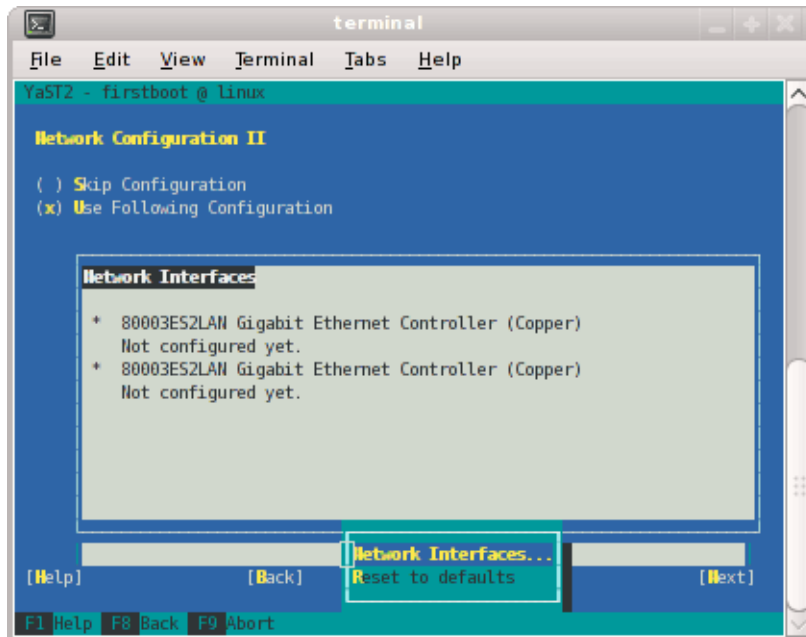

Figure 2-4 Network Configuration II Screen
7. The **Network Configuration II** screen appears, as shown in Figure 2-4 on page 39. Select **Change** and a small window pops up that lets you choose **Network Interfaces...** or **Reset to Defaults**. Choose **Network Interfaces**.